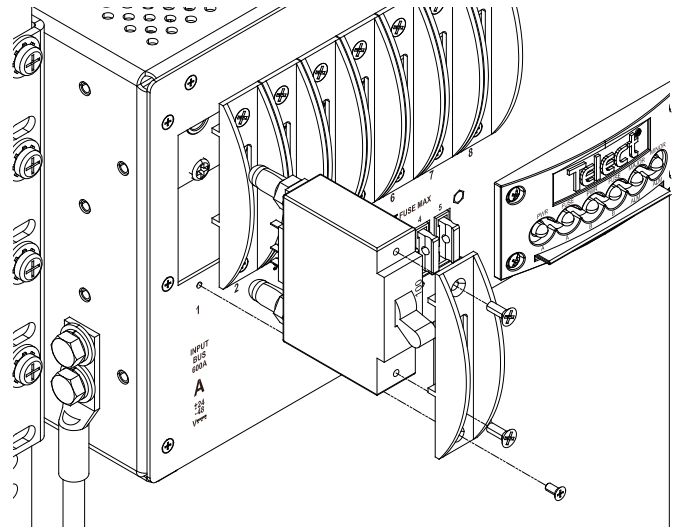

Figure 13 - Installing Circuit Breaker for Single-Pole Output
33. Make sure circuit breakers or fuse holders are switched off, empty, or contain dummy devices. Also make sure load devices and/or distribution units are disabled. (Normally, circuit breakers are OFF when the switch operator [handle] is down.) Then install circuit breakers or fuse holders and fuses for the dual-hole lug outputs, as shown in Figures 13 and 14.